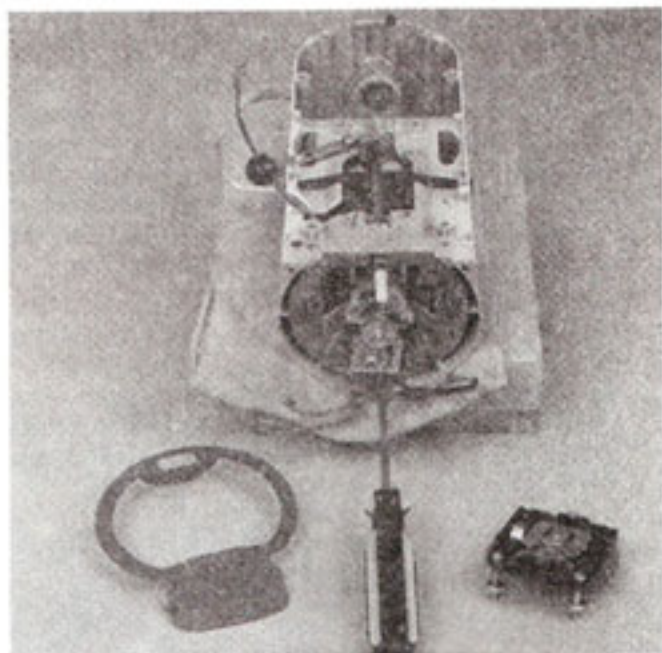

Fig. 49
- N. If the phase control was removed or replaced, make sure the heat sink on the triac unit has sufficient amount of thermal conductive compound applied to that surface before assembling. Place the #4-40 x  $\frac{1}{4}$ " pan head screw through the hole in the triac and screw it into the bearing bracket (Fig. 49) until it is tight (4-5 in. lbs.).